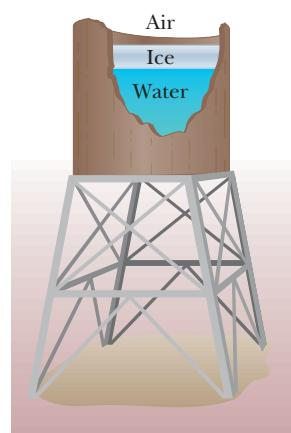

Figure 18-47 Problem 61.
- 61 SSM** A  $5.0\text{ cm}$  slab has formed on an outdoor tank of water (Fig. 18-47). The air is at  $-10^\circ\text{C}$ . Find the rate of ice formation (centimeters per hour). The ice has thermal conductivity  $0.0040\text{ cal/s} \cdot \text{cm} \cdot ^\circ\text{C}$  and density  $0.92\text{ g/cm}^3$ . Assume there is no energy transfer through the walls or bottom.